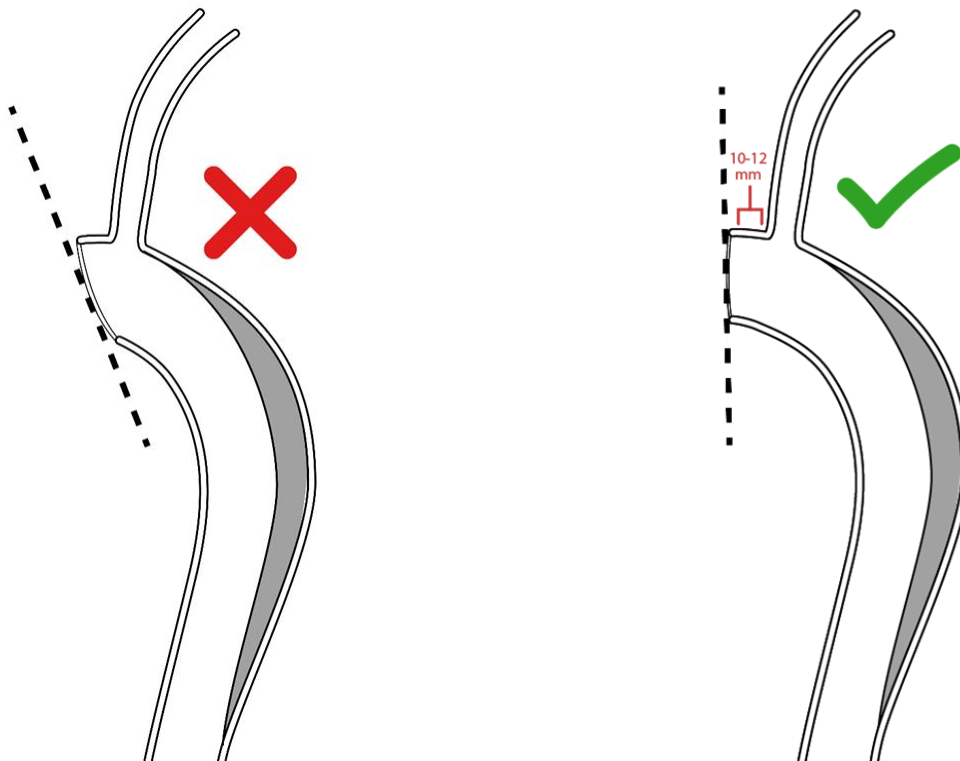

Figure 6. Zone 2 Distal Ascending Aortic Transection for Arcevo™ LSA Implantation
11.1.2 Expose the access site using standard surgical technique and perform a zone 2 aortic perpendicular transection exposing the aortic arch, leaving at least 10-12 mm of aorta proximal to the LSA (**Figure 6**).